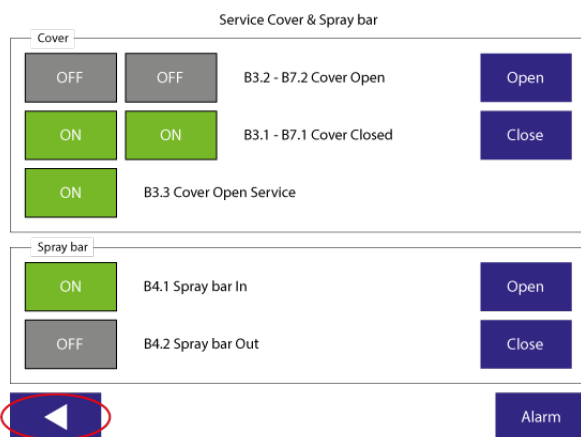

Figure 6.10 Service Cover & Spray bar menu.
3. Click the Back arrow to go back a step, see Figure 6.10.